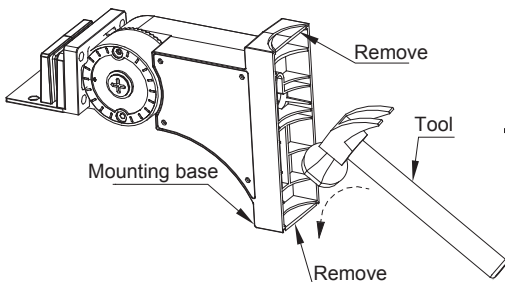
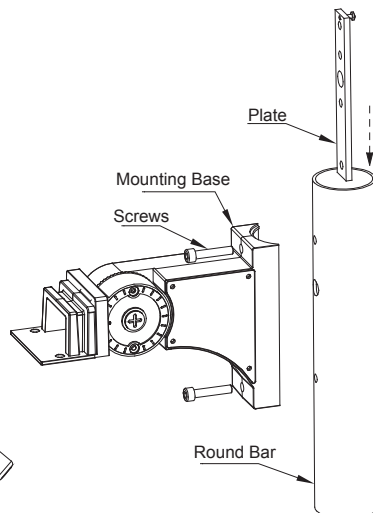
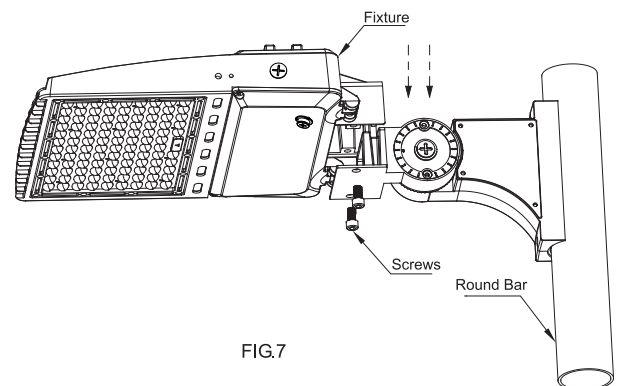

FIG.5
FIG.6
FIG.7
2. Round Pole Installation: Make the mounting base arc-shaped to fit the round pole[FIG.5] , screw the plate and mounting base together[FIG.6] , connect the wires correctly , slide the fixture down to the arm base and screw the two safety screws[FIG.7].